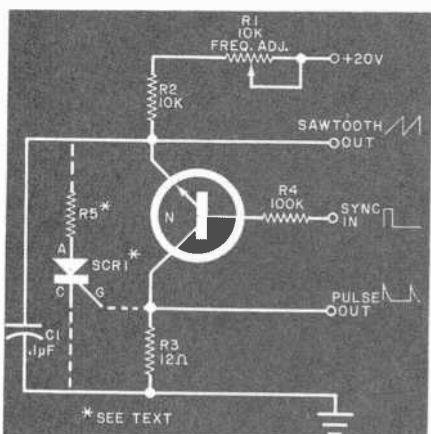

Fig. 2. Sawtooth and pulse generator: SCR circuit increases output.
**Applications.** A useful circuit employing the negistor is the sawtooth and pulse generator shown in Fig. 2. Output frequency is determined primarily by  $R_1$ ,  $R_2$  and  $C_1$ . The current through the negistor is limited by  $R_2$ , which also sets the maximum fre-